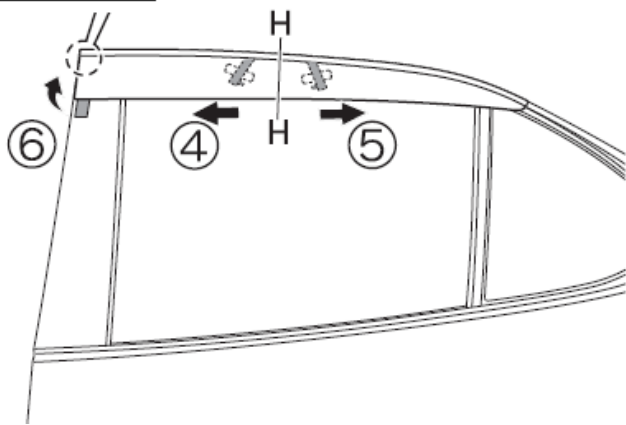

Fig. 7-1
Remove backing paper from tape in sequence (1) to (6) as shown in Fig. 7-1.